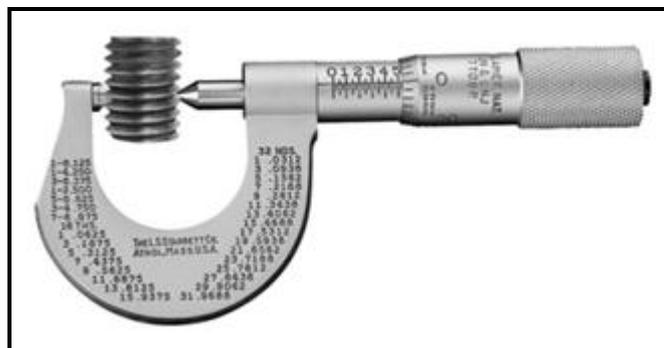

FIGURE 7.4
7.4 FIGURE 7.4 shows a precision measuring instrument. Answer the questions that follow.
7.4.1 Identify the instrument in FIGURE 7.4. (1)